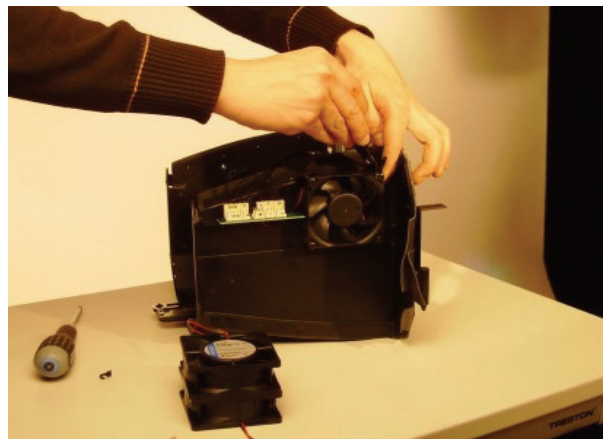

Figure 64
70. See Figure 64. Place the zoom/focus module on a workbench. Cut the cable ties holding the effect cooling fan wiring. Disconnect the fans, making a note of which connectors they were plugged into, then remove the 4 mounting screws from each fan and remove the fans from the zoom/focus module. The fans and mounting screws are no longer required, as new items are supplied in the Upgrade Kit.